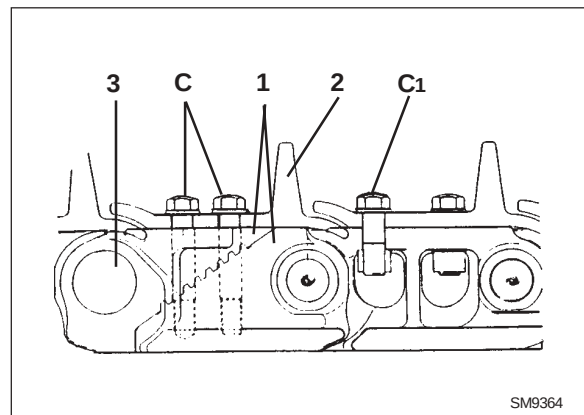

Fig. 11 - Track chain master link
3. Place a wooden block under the rib of the shoe nearest the junction point. Connect half links (1), install the master shoe and tighten the screws to the prescribed torque indicated in Fig. 11.